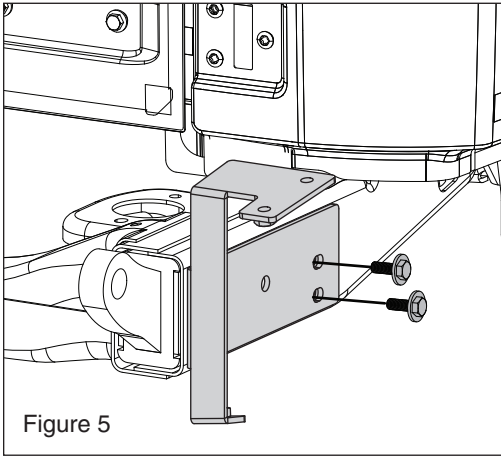

Figure 5
*Install side brackets using the original M10 bolts in the two slotted locations. Do not tighten at this time. (see FIG5)*